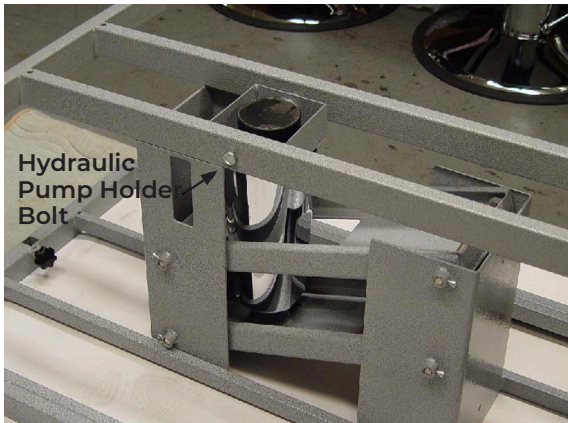

Figure 2
Step 4: Remove the two bolts from each side of the hydraulic pump holder. See Figure 2.